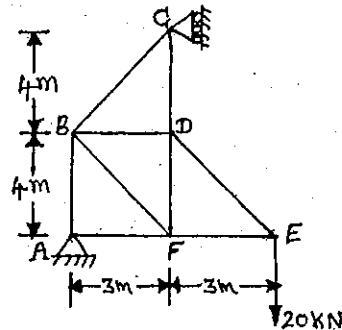

Fig.1(b)
b. Analyse the truss shown in Fig.1(b) by method of joints. Indicate the member forces on a neat sketch of the truss.